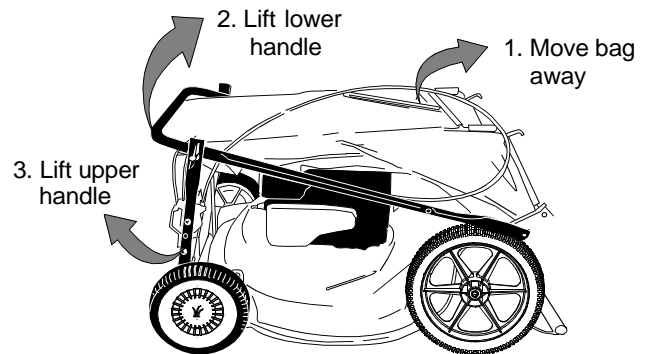

Figure 2
- Remove the grass catcher from the unit and set it out of the way. See Figure 2 (step 1).
- Raise the lower handle in the direction shown in Figure 2 (step 2) till it snaps into place.
- Raise the upper handle in the direction shown in Figure 2 (step 3). Tighten the wing nuts which are already on the handle.